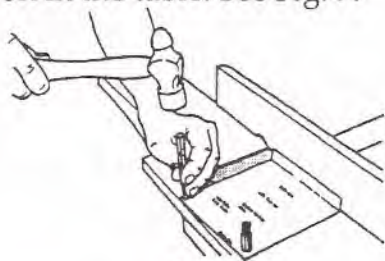

Fig. 7
13. Use a hammer and center punch to punch through the template where it says "Center Punch Here". This will leave an indentation in the table. See Fig. 7.